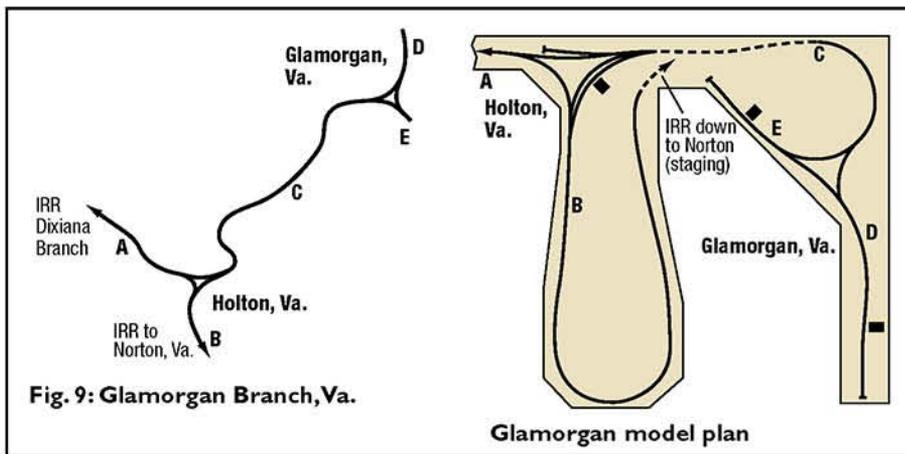

Fig. 9: Glamorgan Branch, Va.
The Interstate RR's Glamorgan Branch, which I model on my HO scale Interstate RR layout, is a good prototype candidate. It has a large wye at Holton where the branch leaves the Dixiana Branch, and it terminates in a wye with coal loaders on both terminating legs (fig. 9). The hidden track (C) has the added advantage of creating the illusion of distance between the two scenes.